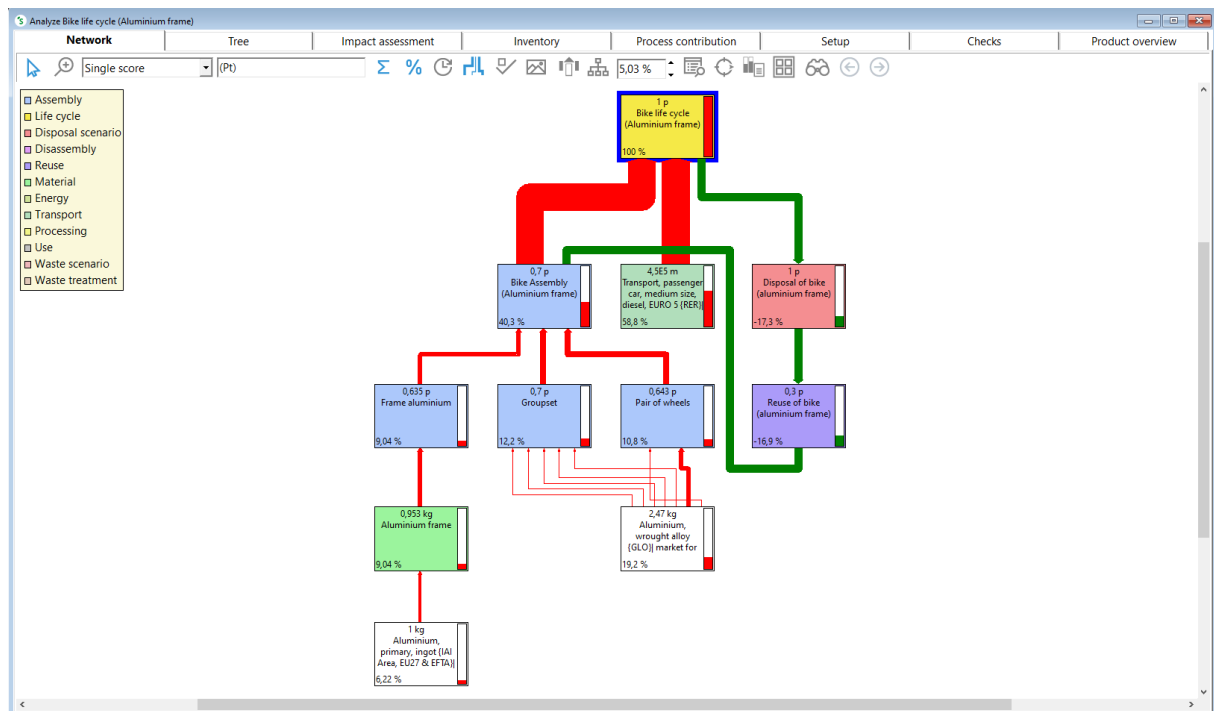
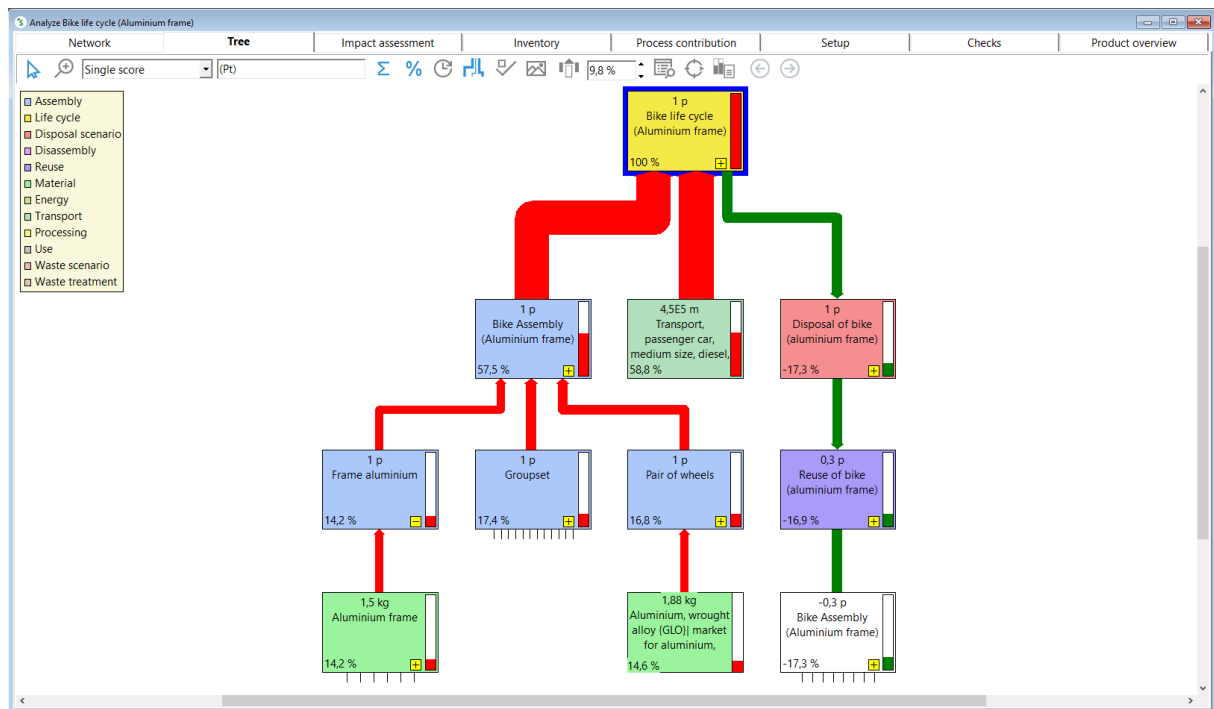

Figure 4.10 Network diagram of aluminium frame bike life cycle
Figure 4.11 Tree diagram of aluminium frame bike life cycle
To get an overview of the whole model you have just built, click on the Bike life cycle (Aluminium frame) (under the Product stages > Life cycle > Others) and choose the *Network icon* at the toolbar. If you didn't yet select a default method, choose ReCiPe 2016 Endpoint (H) impact assessment with World (2010) H/A Normalization/Weighting set as the method and click Calculate. You will get a warning: "Not all products of this network are currently visible (11 of 66)." Click OK and select "show indicator as percentage". You will then see the network diagram as seen in Figure 4.10. You can play around with different cut-off percentages to increase/decrease the number of nodes shown in this diagram.
From Figure 4.10 we can see that transport using a passenger car (i.e., transportation involved for the bike maintenance) causes 58.8% of the total impact caused during the entire life cycle of the bike using aluminium frame. The bike assembling causes about 40,3% of the impact, with its main source of impact (12.2%) coming from the groupset assembly.
By clicking on the *Tree* tab you will see the tree view as in Figure 4.11.
From Figure 4.10 and Figure 4.11, it is clear that transport in a passenger car (i.e., transportation involved for the bike maintenance) has a larger impact during the entire life cycle of the bike compared to the total impact of production and assembly of the bike with aluminium frame.